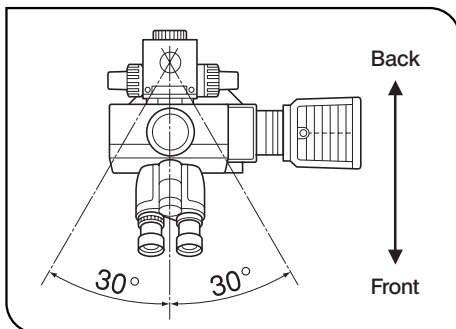

Fig. 1
2. When combining the stand (U-ST), install the BXFM so that it forms an angle of  $\pm 30^\circ$  with respect to the pillar as shown in Fig. 1.